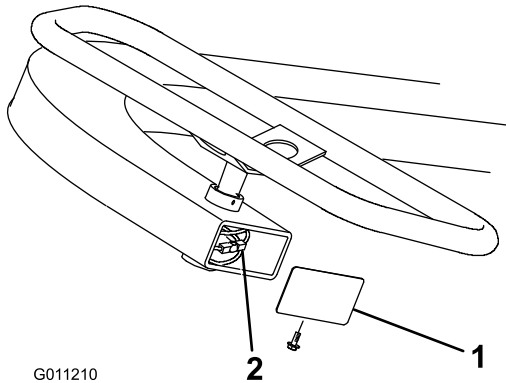

Figure 49
2. If all threads on the cable end have been used, replace the cables. If necessary, service the pulley and steering cable under the steering wheel by removing the cover on the end of the steering column (Figure 49).